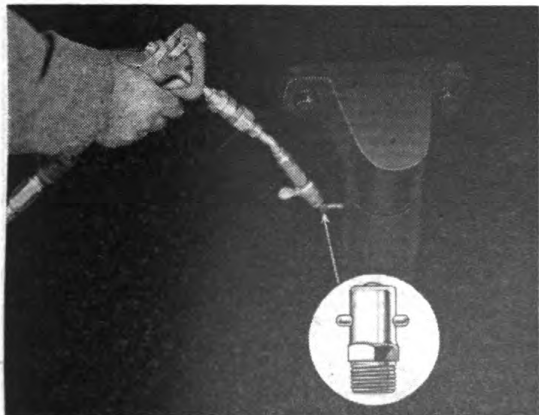

Figure 21
(2) *To Service Pin Type Fittings (See Figure 21).*
Attach Pin Type adapter to Pin Type fitting. Push the Hydraulic coupling onto the fitting of the adapter, and operate control valve as described above. There are two styles of Pin Type adapters furnished: (1) straight adapter shown in Figure 21, and (2) Z-type swivel adapter (not shown) for hard-to-reach fittings.